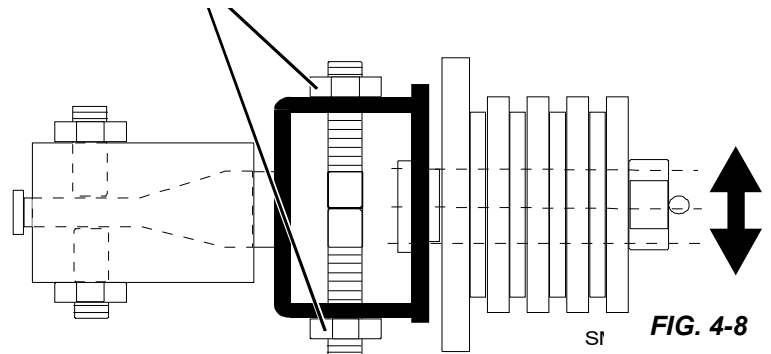

FIG. 4-8
3. Loosen the bottom jam nut and tighten the top jam nut until the blade guide deflects the blade down 1/4" (8mm). See Fig. 4-8.